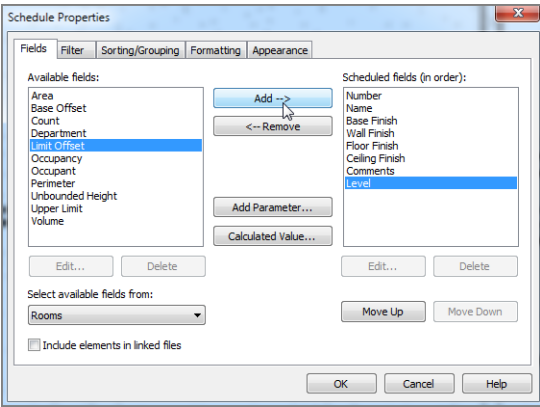

FIGURE 15.14: Adding fields to the schedule
4. On the Fields tab of the Schedule Properties dialog that opens, add the following fields in the specified order (see Figure 15.14):